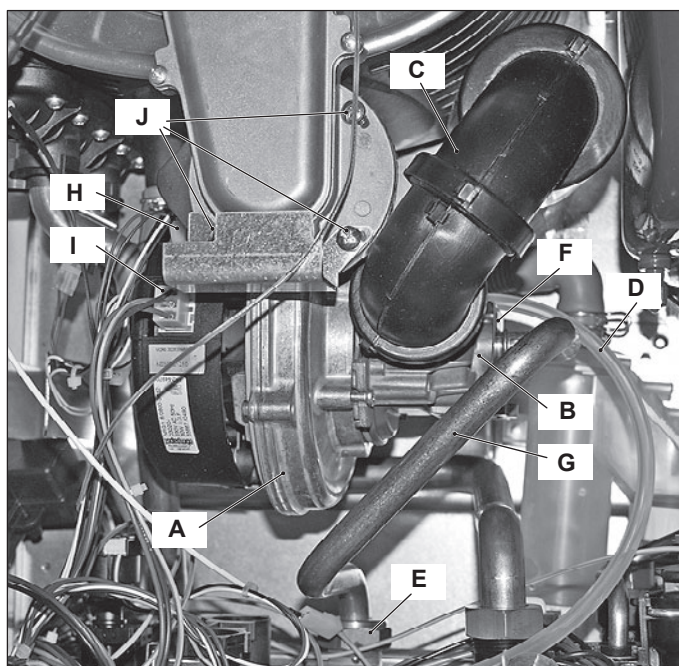

Figure 17.2
- 3 Disconnect the air manifold E (Figure 17.2).
Before reassembling ensure the fan gasket (Figure 17.2) is correctly mounted.